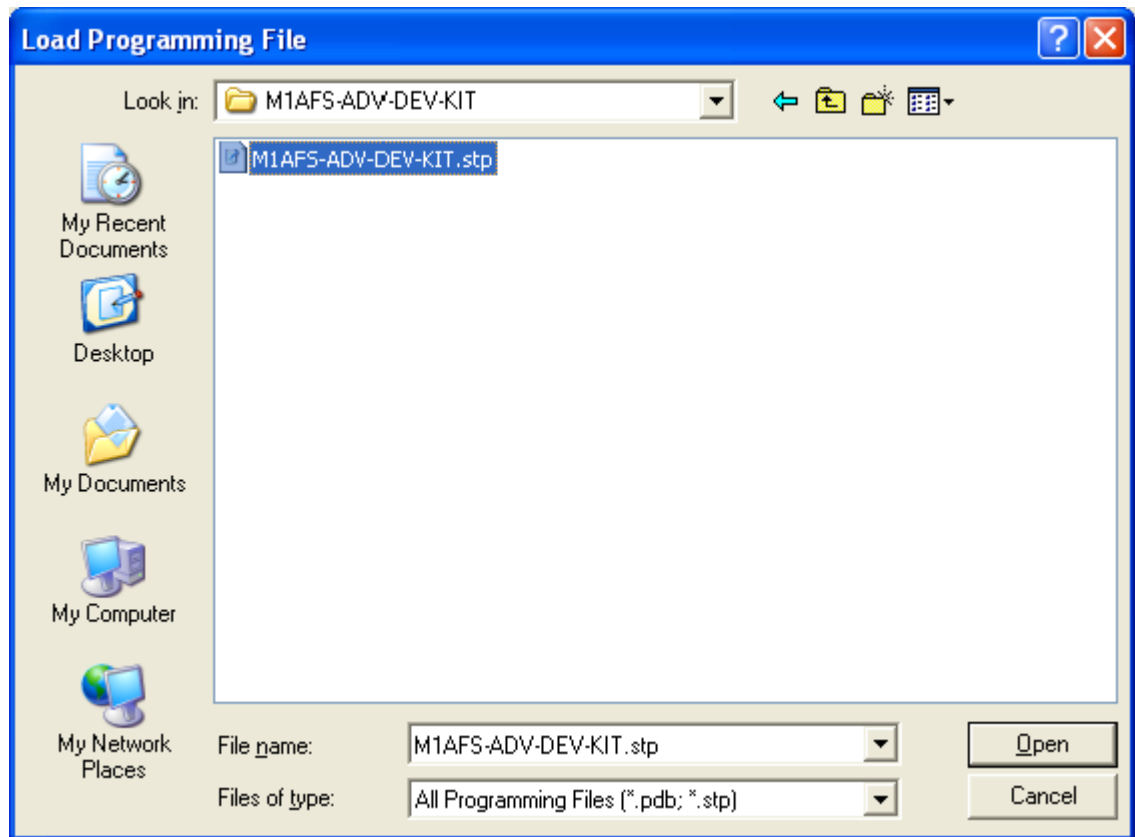

Figure C-4 · Load Programming File
5. Browse the PC file system to find the M1AFS-ADV-DEV-KIT.stp programming file. Click **Open** to select the M1AFS-ADV-DEV-KIT.stp file (Figure C-4).